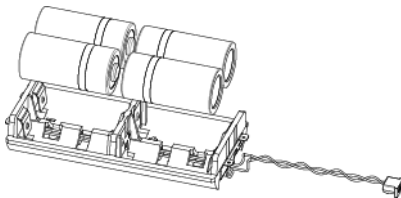

Figure 11
3. Insert the new batteries while observing battery polarity (*see Figure 11*).